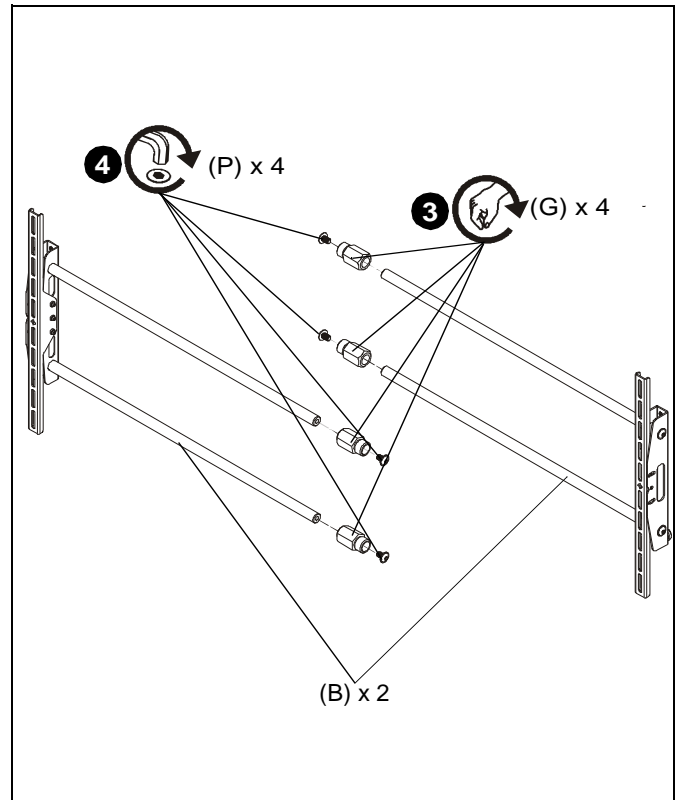

Figure 3
3. Install four rail bushings (G) onto two rail extensions (B). (See Figure 3)
4. Install four 5/16-18 x 1/2" button head flange screws (P) to ends of rail extensions (B). (See Figure 3)